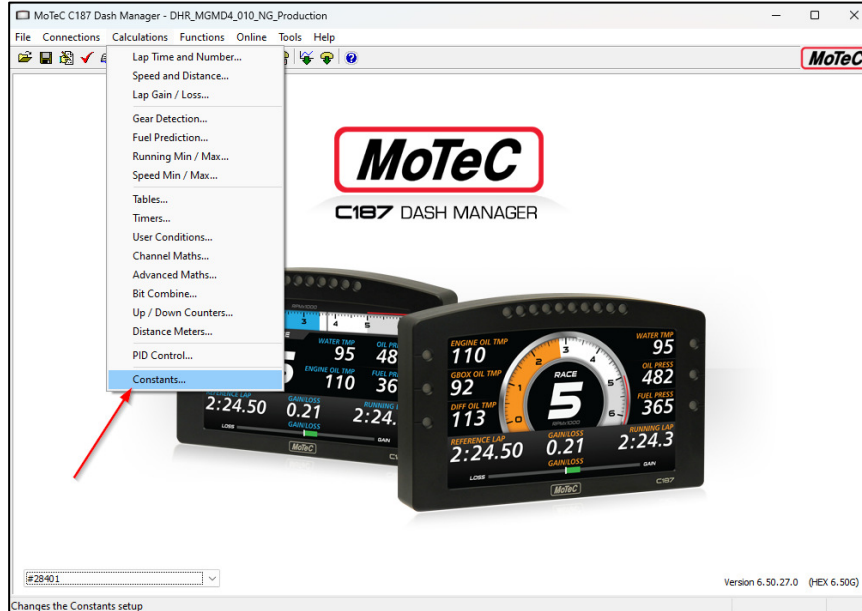

Figure 4.61: Constants location in Dash Manager
2. Select the 'Connections' button as shown in Figure 4.61 and navigate to the 'Constants...' section.